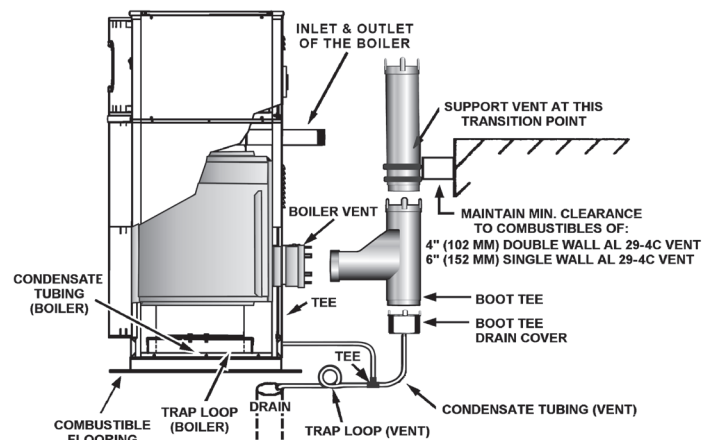

Figure 10.
Referring to Figure 10., combustion gases are vented using AL29-4C material. Transition from the horizontal outlet to a vertical vent is achieved through the use of a boot-tee and drain cover or other engineering approved arrangement. A support bracket should be located at the transition point.
1. Attach the Boot Tee Drain Cover to the appropriate leg of the Boot-Tee, see Figure 10.
2. A trap loop must be formed into the drain tube simply by looping the tube to a minimum 3 inch (76mm) diameter and secure the loop with a cable tie, see Figure 10.
4. Connect the Boot-Tee and Drain Tee assembly (or engineering approved equivalent) to the boiler vent connector, see Figure 10.
The support brackets (supplied in the Vertical Support Kit) are to be securely fastened to a solid vertical member of the building using the appropriate fasteners; i.e., wood screws for wood framing, machine or tapping screws for structural steel or masonry anchors for solid masonry. The bracket should be located so that it will not interfere with any joints of the venting system. The bottom most support bracket should be located directly above the first transition from horizontal to vertical, see Figure 10. Refer to Figures 12, 12A, 12B and 12C.